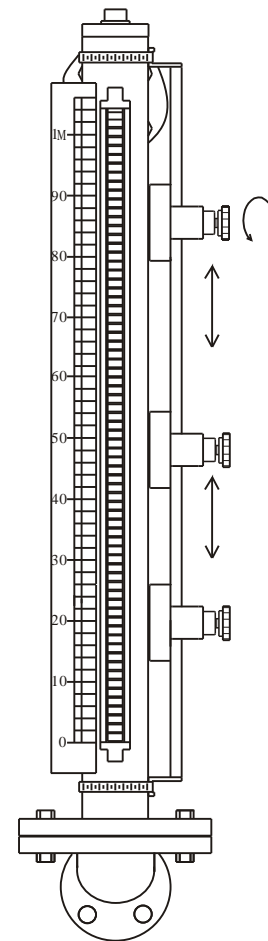

fig. 3
3. (Fig.3) By-pass Level Indicator with adjustable magnetic switches and SUS304 ruler. It can be assembled with upward /downward movable multiple magnetic switches on a riding rod.
1. The magnetic switch (RFB-14□□ series) is to be placed on a riding rod, then fasten the riding rod to the chamber with two hose clamps. (see page 18 - fig.3)
10. See fig.3 for the installation direction of mounting holes